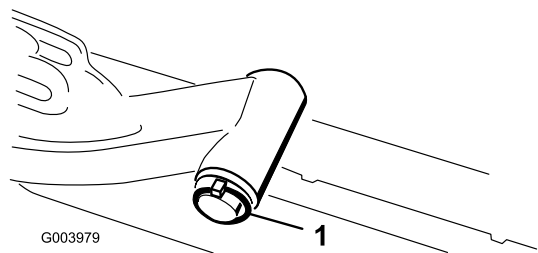

**Figure 11**
8. For the front cutting units, slide a cutting unit under the lift arm while inserting the carrier frame shaft up into the lift arm pivot yoke (Figure 11).
- B. Insert the lift arm yoke onto the carrier frame shaft (Figure 11).